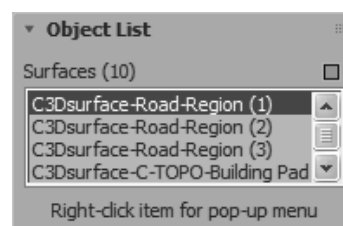

Figure 3–8
1. Verify that the *Civil Explorer* tab is selected. Expand **Civil View Objects>Imported Objects**, if not already expanded. Select **Surfaces** and note that the corridor is selected in the viewports. The *Object List* rollout opens with all of the surfaces listed, as shown in Figure 3–8.